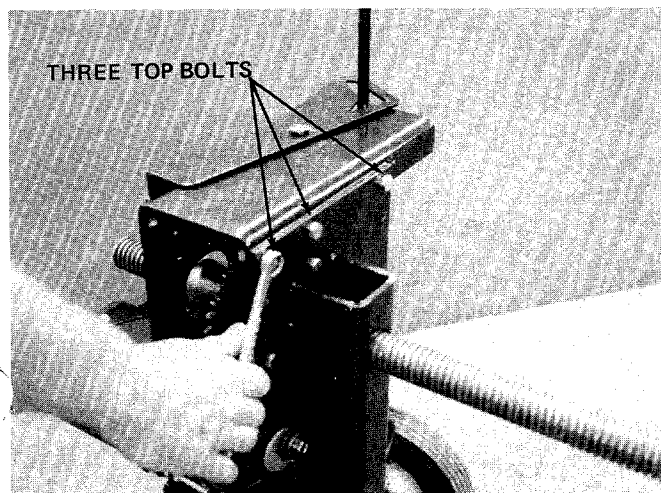

FIGURE 12
9. Remove the top three bolts, lock washers and nuts as shown in figure 12. Two 9/16" wrenches are required.